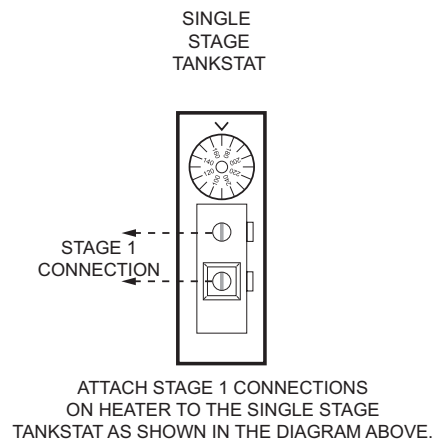

Fig. 23: Single-Stage Tankstat
3. For single-stage controller connections, attach the stage 1 connections on heater 1 to the tankstat per Fig. 23.